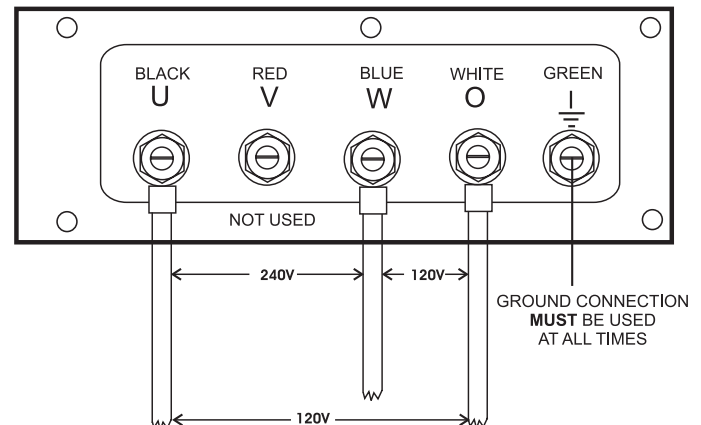

Figure 31. UVWO Terminal Lugs 1Ø-240V/120V Connections
2. Connect the load wires to the UVWO terminals as shown in Figure 31.